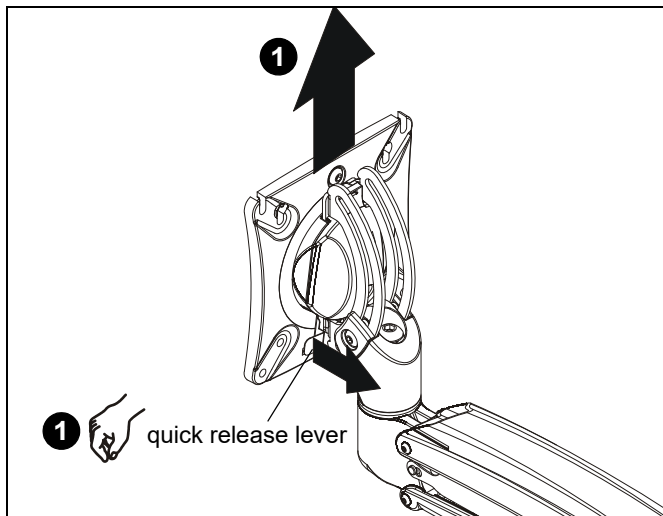

Figure 1
1. Remove existing quick release faceplate from monitor arm by pulling quick release lever and lifting faceplate from arm. (See Figure 1)